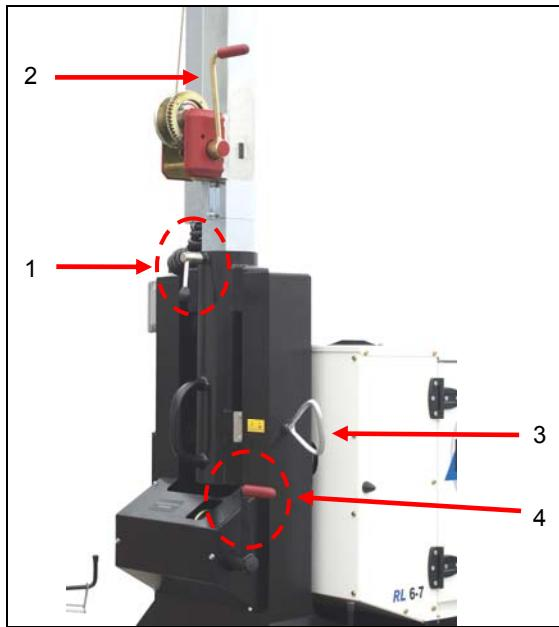

Figure 5.9 – Lowering the column
- ❶ Switch off the lights (see paragraph 6.4).
- ❷ If the telescopic column has been oriented, return it to its initial position, and then lock the column rotation using the corresponding pivot (Fig. 5.9, ref. 1).
- ❸ Turn the hoist crank handle with automatic brake anti-clockwise, until telescopic sections no. 2, 3 and 4 fit back into the first section (Fig. 5.9, ref. 2).
- ❹ Pull the lower safety stud (Fig. 5.9. ref. 3) to unlock it, and at the same time lower the telescopic column using the hoist crank handle with automatic brake (Fig. 5.9. ref. 4), and then release the safety pivot and continue lowering the column.